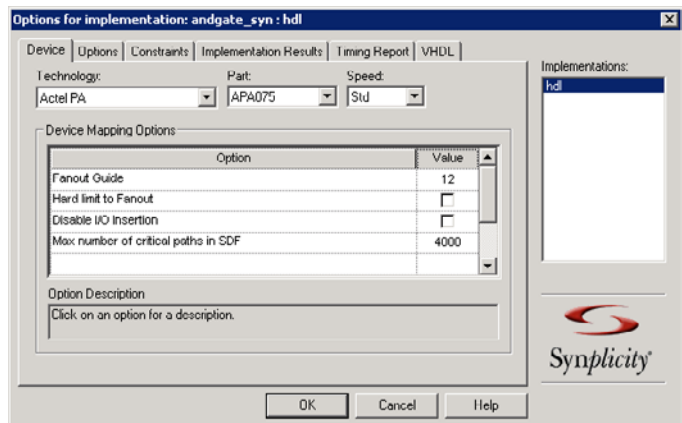

Figure 2-20. Options for Implementation Dialog Box
- From the **Project** menu, select **Implementation Options**. This displays the **Options for Implementation** dialog box, as shown in Figure 2-20.